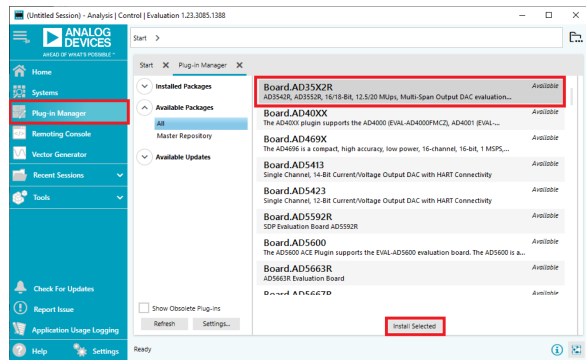

Figure 3. Plugin Manager
2. Click the **Plugin Manager** item on the left-hand menu as shown in Figure 3.